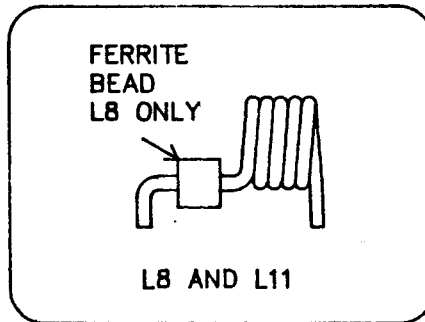

FIGURE 3
- For L11, (page 7, fig. 3) use the plastic coil form to wind this coil; it shows the correct diameter.
- For L8, (page 7, fig. 3) wind as you did for L11, but notice that it includes a ferrite bead.